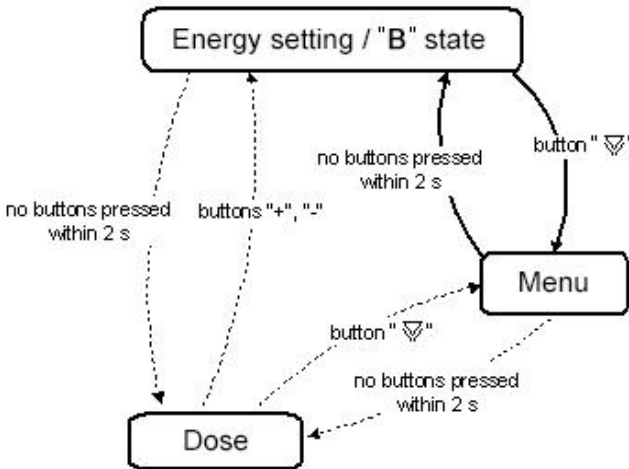

Fig.17
6.1.2 A chart of the device's basic states is illustrated in the Fig.17 (dotted lines mean that the **Dose** is on).